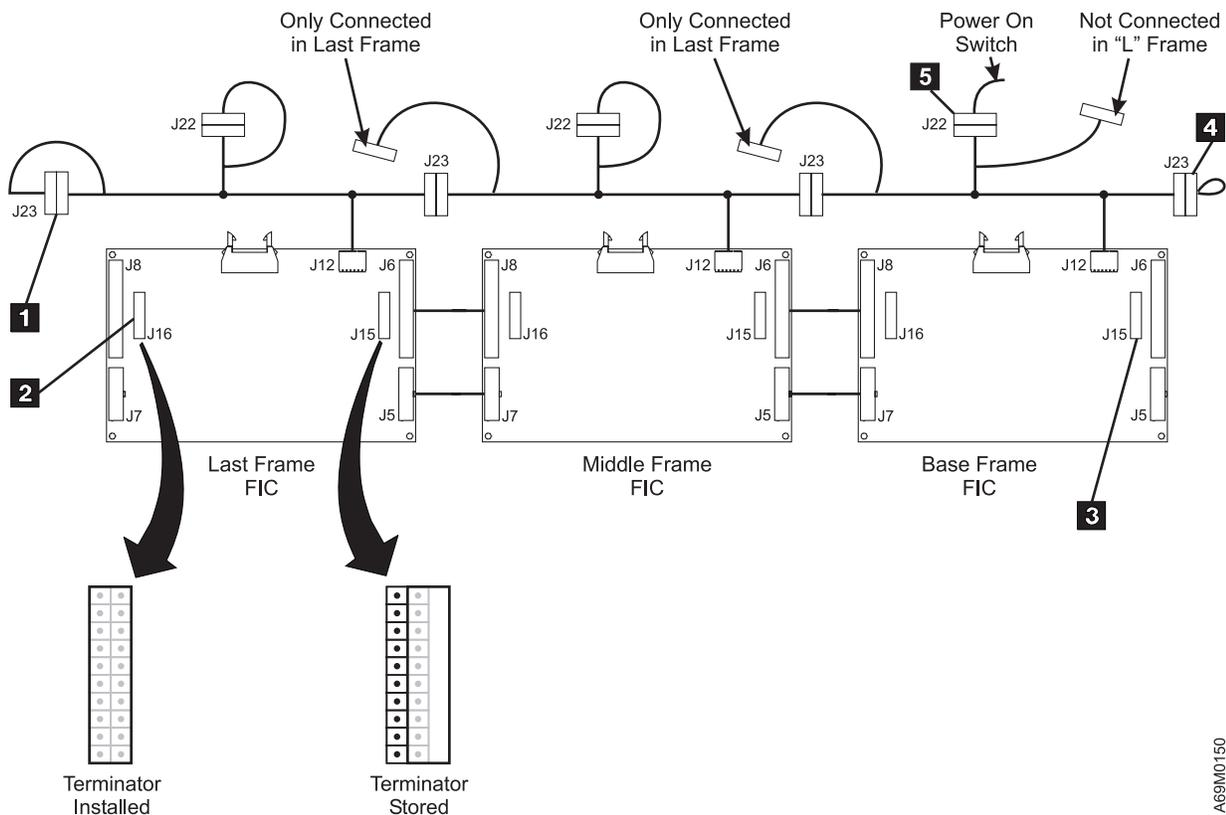
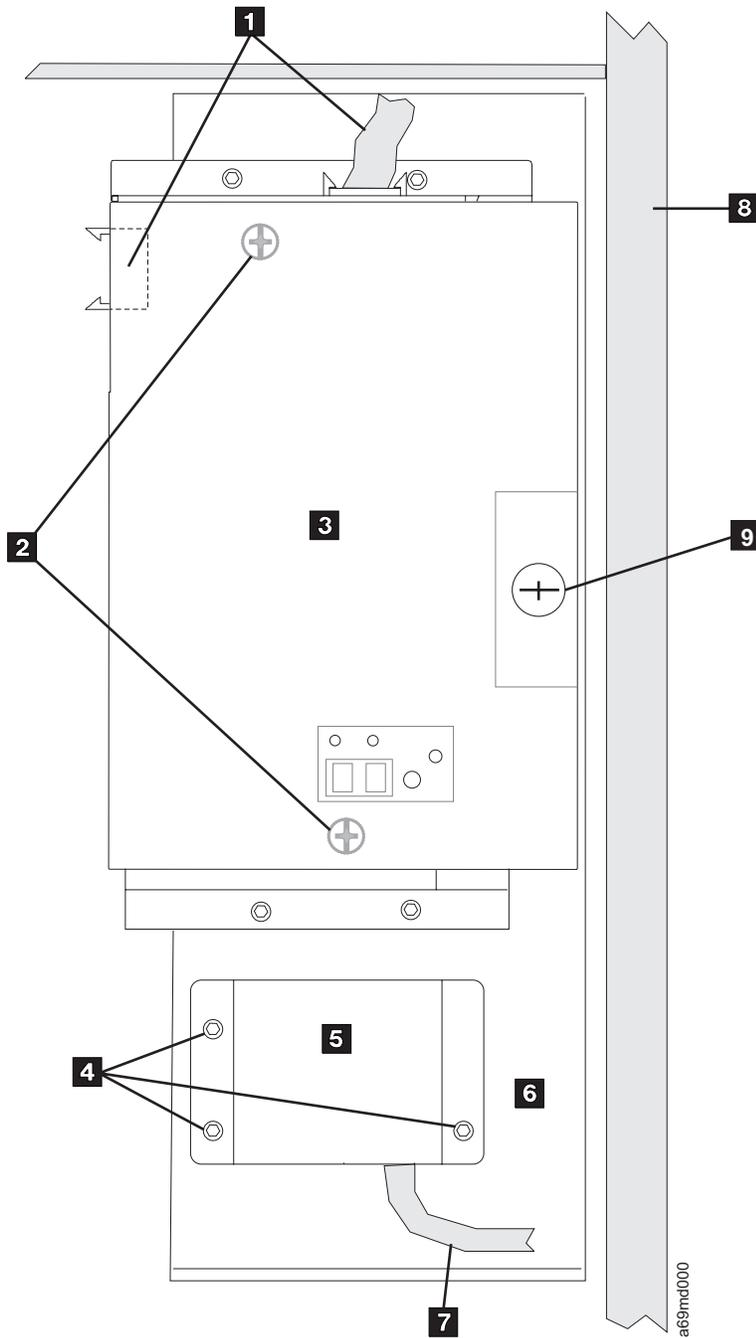

Figure 147. Frame Interconnect Cables
Figure 148. Power Switch and Cable Assembly. (Viewed from rear of operator panel)
4. Refer to Figure 147. Disconnect cable connector J22 **5** (in the base frame) that leads to the back of the power switch **7** on Figure 148 on page 647.
6. Refer to Figure 148 on page 647 to remove the three mounting screws **4**.